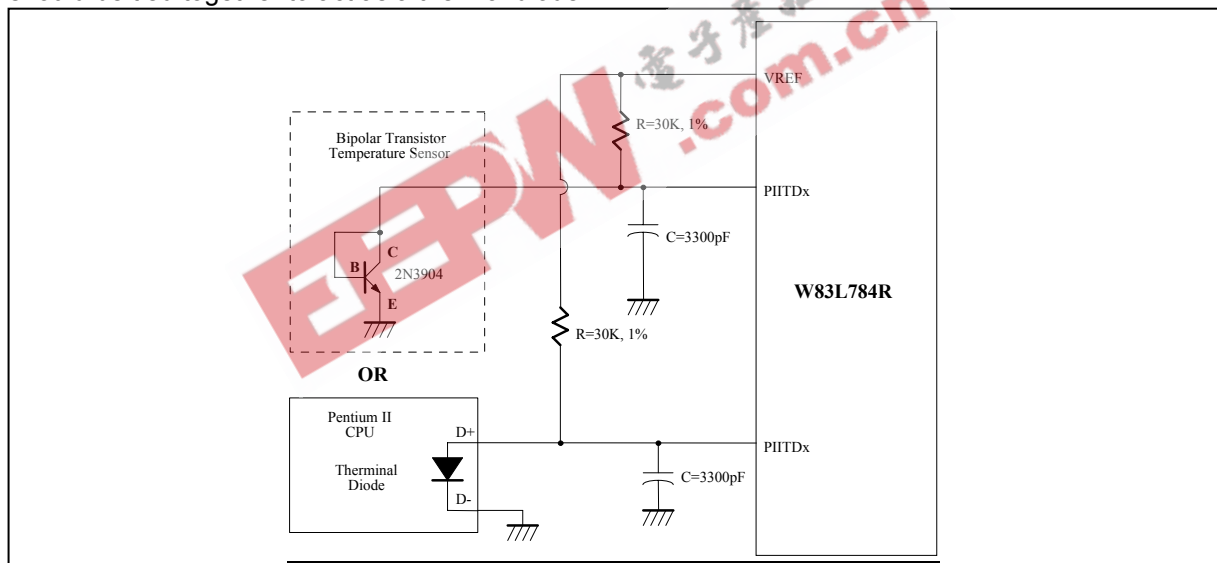

Figure 12
The W83L784R/G can alternate the thermistor to Pentium II™ (Deschutes) thermal diode interface or transistor 2N3904 and the circuit connection is shown as Figure 12. The pin of Pentium II™ D- is connected to power supply ground (GND) and the pin D+ is connected to pin PIIX in the W83L784R/G. The resistor R=30K ohms should be connected to VREF to supply the diode bias current and the bypass capacitor C=3300pF should be added to filter the high frequency noise. The transistor 2N3904 should be connected to a form with a diode, that is, the Base (B) and Collector (C) in the 2N3904 should be tied together to act as a thermal diode.